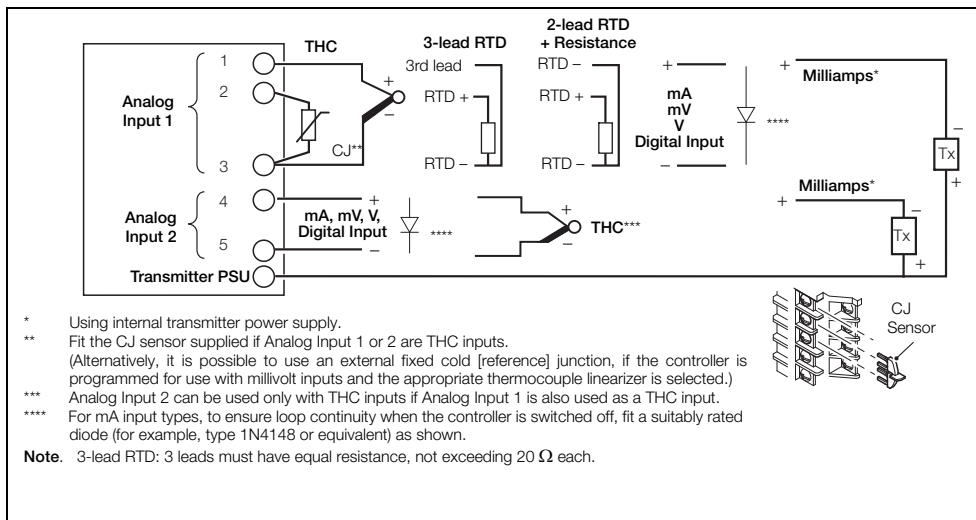
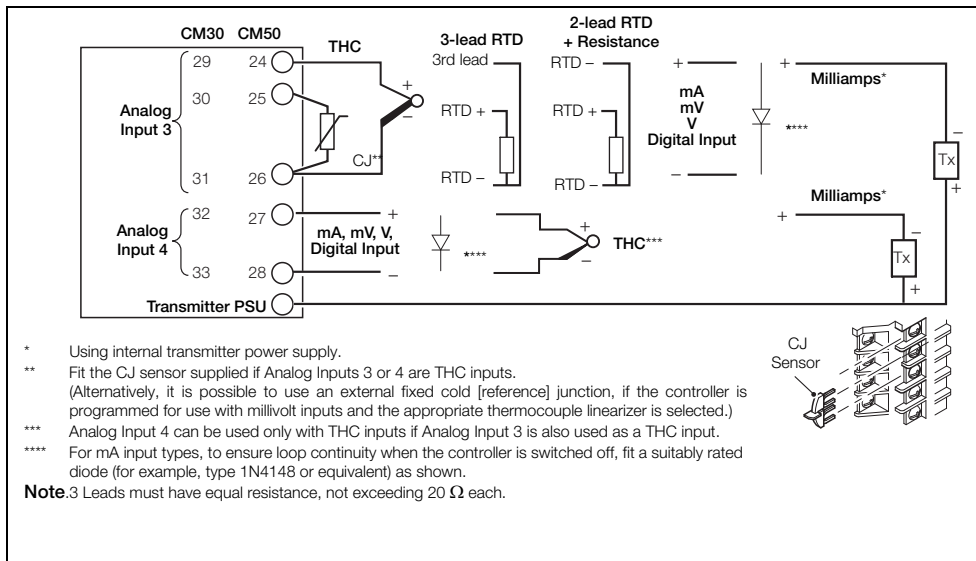

Fig. 4.10 Standard Analog Inputs (1 and 2)
Fig. 4.11 ControlMaster CM30 and CM50 Optional Analog Inputs (3 and 4)
**Note.** Standard terminal connections for inputs 1 and 2 are shown in Fig. 4.10. Optional analog inputs 3 and 4 are shown in Fig. 4.11.